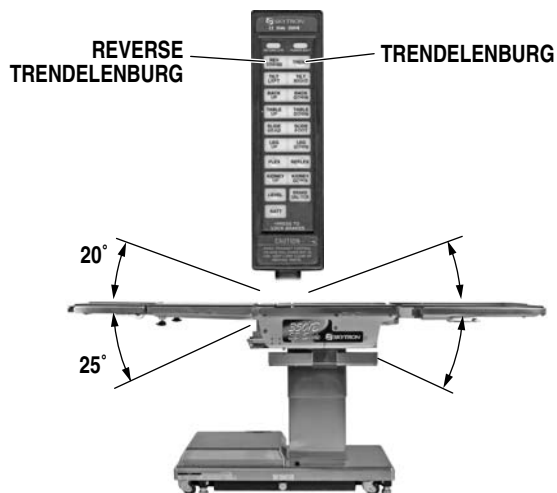

Figure 2-6. Trendelenburg Positioning
**b. Trendelenburg.** To place the table in a Trendelenburg (head down) position, press the TREND button (figure 2-6). Trendelenburg positioning of up to 25° may be obtained. To place the table in a reverse Trendelenburg (head up) position, press the REV TREND button. Reverse Trendelenburg positioning of up to 20° may be obtained.